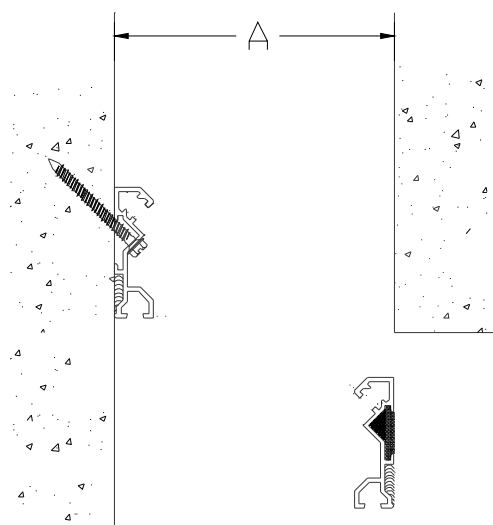
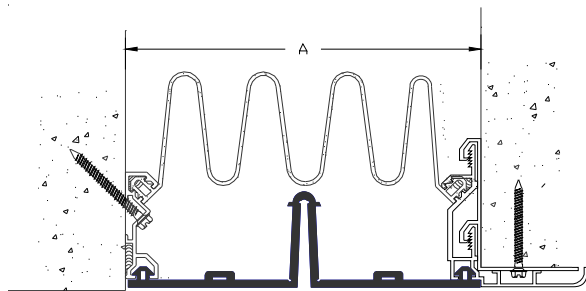

Figure 6
Figure 7
NOTE: IN LIEU OF MECHANICAL FASTENERS, AN APPROPRIATE SEALANT/ADHESIVE MAY BE USED TO CONTINUOUSLY THOROUGHLY COAT THE BACK OF THE BASE MEMBERS AND TO AFFIX THE BASE MEMBERS TO THE ASSEMBLY SUBSTRATE (SEE FIGURE 7). AN EPOXY ADHESIVE OR A SEALANT, SUCH AS SIKAFLEX 1A, IS ACCEPTABLE, PROVIDED THE SELECTED ADHESIVE SEALANT IS APPROPRIATE FOR USE WITH THE ALUMINUM BASE MEMBERS AND WITH THE SUBSTRATE TO WHICH THE BASE MEMBERS WILL BE ADHERED.
STEP 9. Select a base member to be adhered to the substrate. Select the adhesive. Apply adhesive to the largest channel on the back of the base member. Select the sealant, and apply the sealant continuously to the back of the base members, see Figure 6. Suitability of the sealant/adhesive is determined by the capability of the product to bond aluminum to the substrate. If use of an adhesive is not possible, Balco, Inc. offers a base member for this joint cover system corner installation (RAL11 and RAL12), see Figure 7.